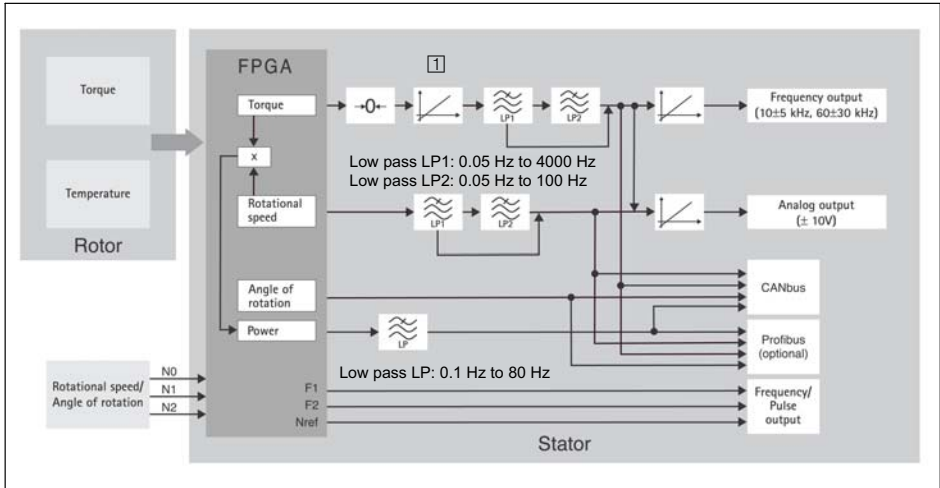

Fig. 6.1 Signal flow diagram
Scaling at position ① (see Fig. 6.1) changes the internal calibration of the torque transducer.